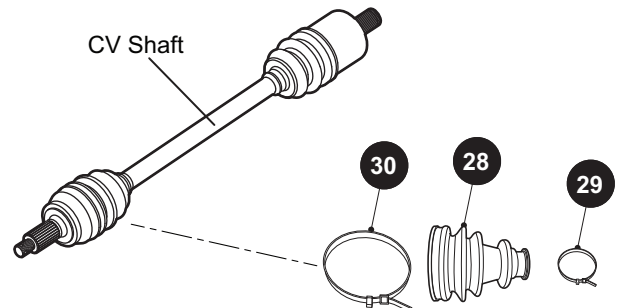

Fig. 12 CV Joint Boot
2. Inspect the inner and outer CV joint boots (28) for damage.
3. Cut the CV joint boot clamps (29) and (30) and remove the CV joint boot (28).
5. Install new boot clamps (Ref. Fig. 12).